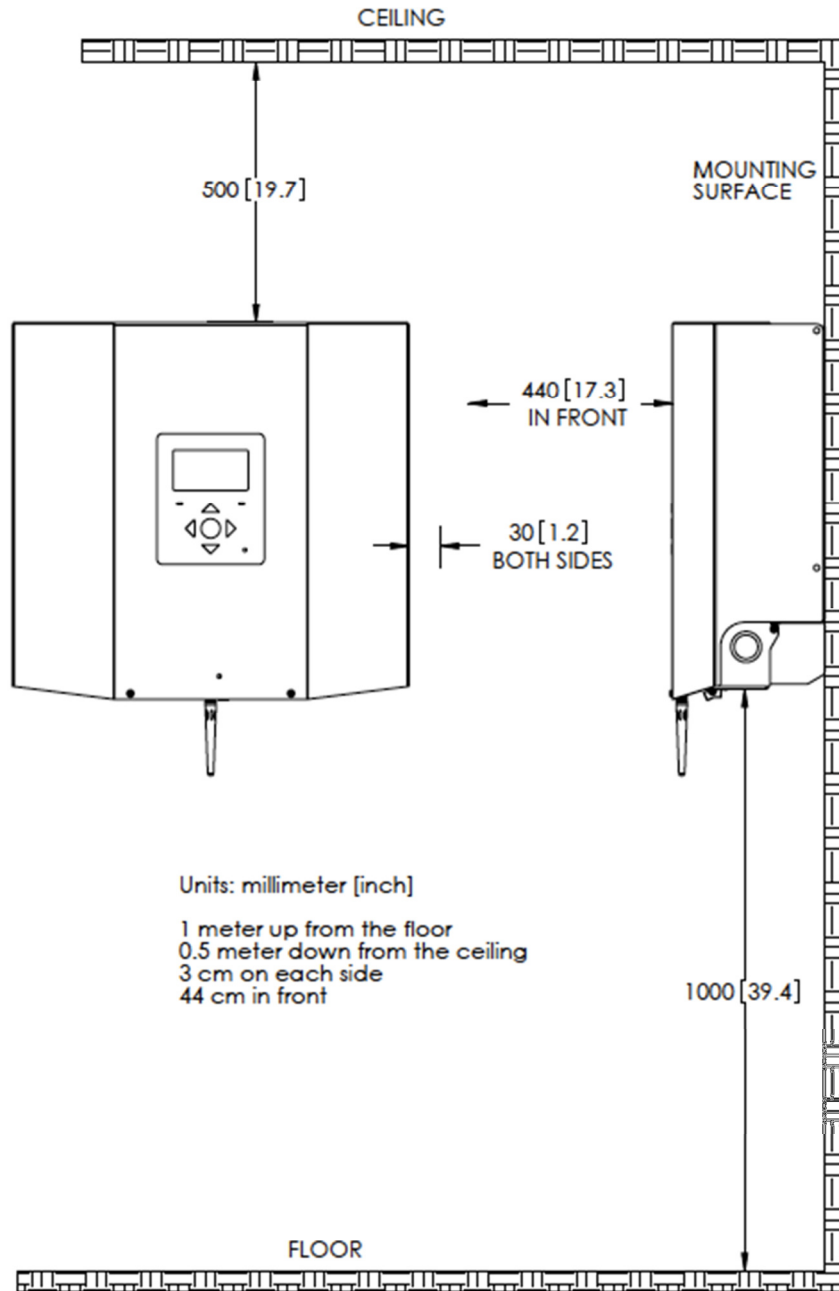

Figure 2 Inverter Minimum Clearance
- Minimum clearances must be maintained, as shown in Figure 2 below.